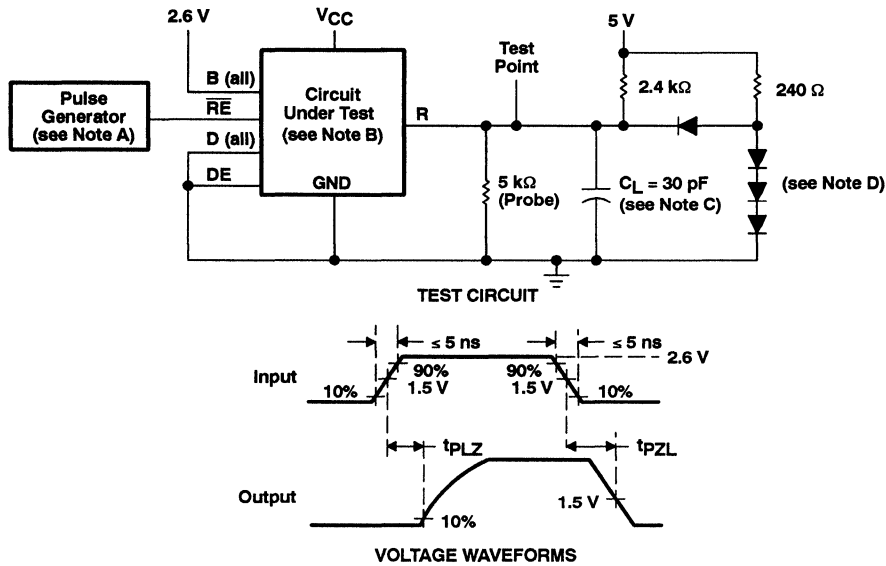

Figure 3. Receiver Test Circuit and Voltage Waveforms
- NOTES: A. The pulse generator in Figures 3 and 4 has the following characteristics: PRR  $\leq$  5 MHz, duty cycle = 50%,  $Z_0 \sim 50 \Omega$ .